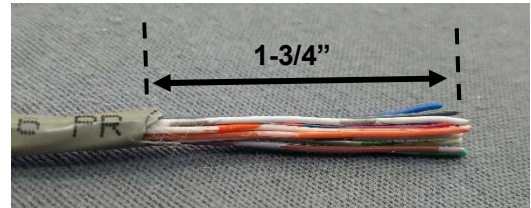

FIGURE 98
□ **STEP 9.9** Trim about 1-3/4" outer jacket off ends of CAT3 control cables A and B, as shown in **FIG. 98**. Cut the white strain relief cord at jacket for each cable. **The NEXT STEPS apply to both cables.**